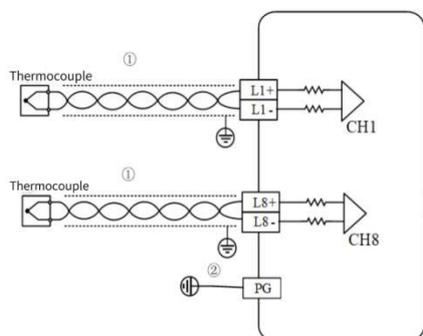

Fig 2-4 MU200-8TC terminal wiring diagram
Figure 2-4 shows the wiring requirements for terminals. ① ~ ③ indicates the notice when wiring:
- ① It is recommended to use a shielded compensation cable, keeping far away from the power line;
- ② The ground terminal is well connected;
- ③ Do not use the empty pin of terminal.